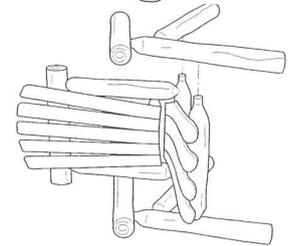

figure 3
STEP 3 Lay one leg set on a flat surface with drilled leg holes facing up. Lay back and seat assembly on its side and insert doweled ends of seat rails into holes on leg sets. Drive legs on as far as possible. Align second leg set holes with the doweled ends of the seat rails. (As shown in figure 3.) Drive legs on as far as possible.